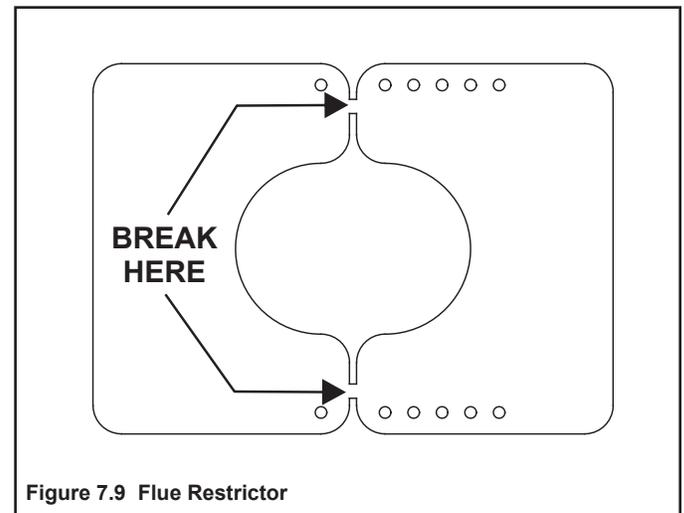

Figure 7.9 Flue Restrictor
2. Break the flue restrictor into two pieces. Do this by bending the part back and forth until it breaks (see Figure 7.9).